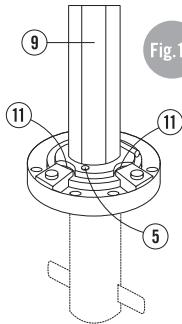

Fig. 13
- Hold sunshade firmly in place and loosen safety screw (5) (Fig. 13).
- Loosen twisting mounts (11) and stow in a plastic bag in the ground socket.